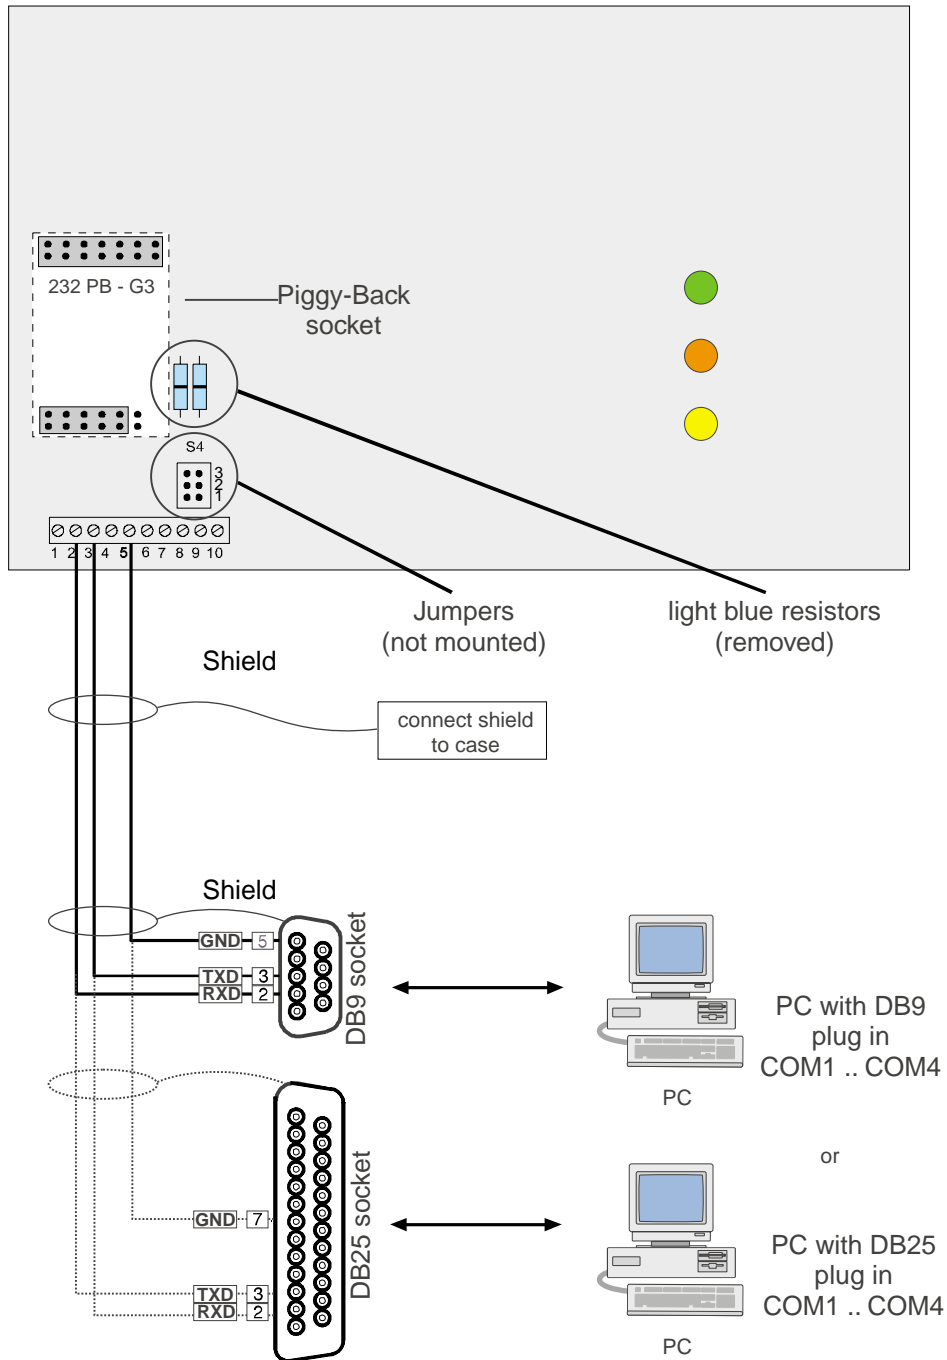

Fig. 6.3: System control board Sunny Boy with RS232 cabling
- the light blue resistors (Fig. 6.3) on the system control board are **removed**.